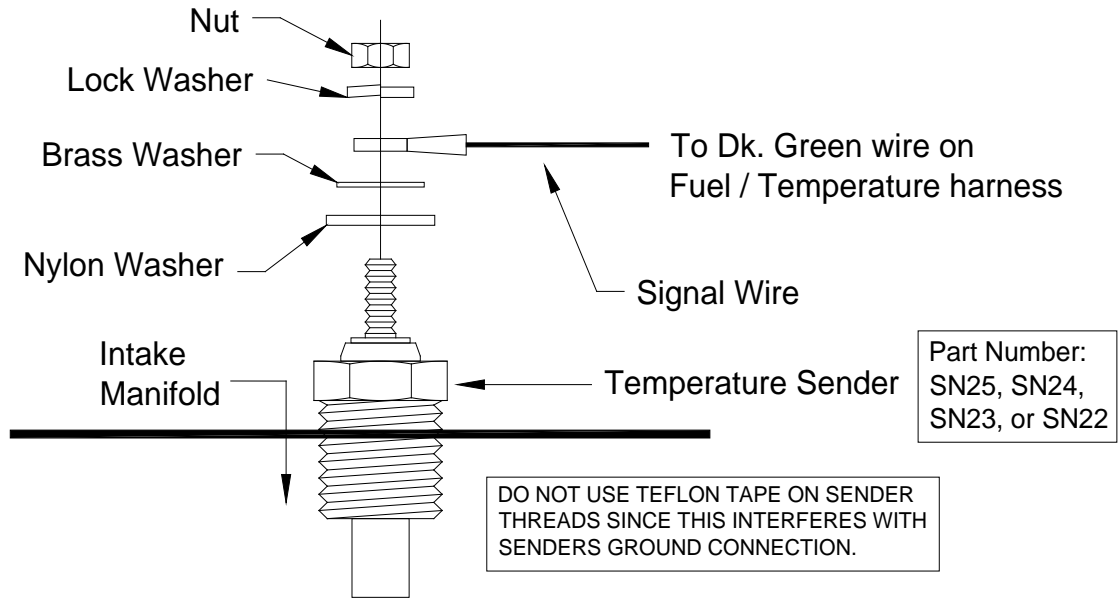

Figure 2
Step 4: Connect the temperature sender to the dark green wire (position A) of the Main wiring harness. *See figure 2.*